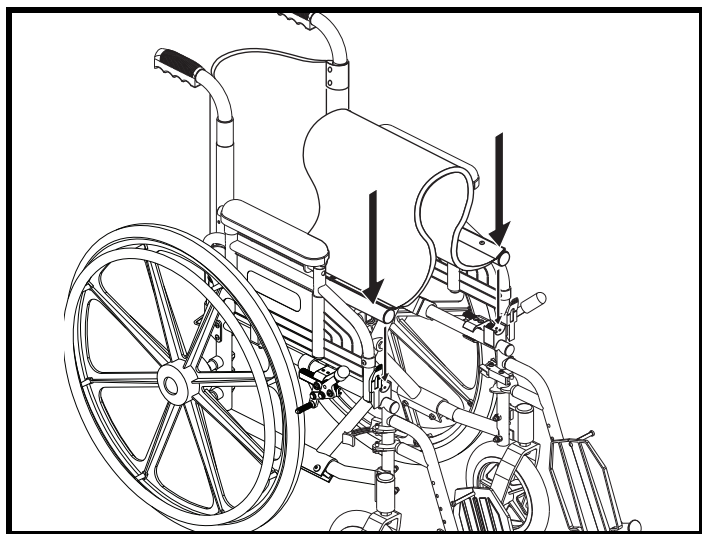

Figure 8. Unfolding the Stylus LS
2. Place the palm of your hands on each seat base rail. See figure 8.